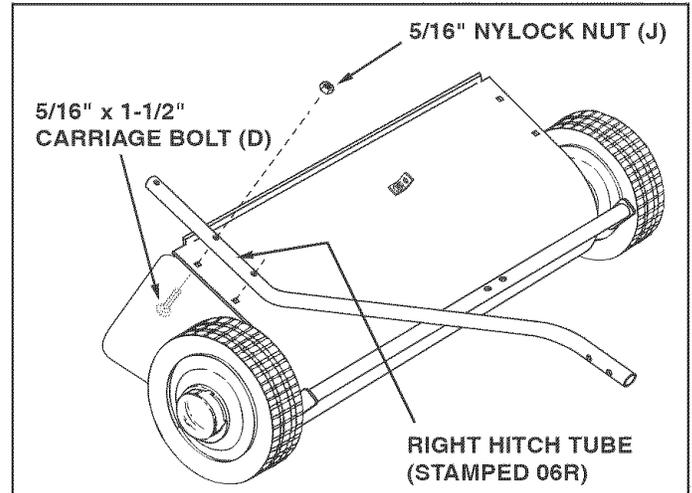

FIGURE 6
STEP 6: (SEE FIGURE 6 AND 7)
- Assemble the right hitch tube (stamped 06R) to the sweeper housing using two 5/16" x 1-1/2" carriage bolts (D), and two 5/16" nylock nuts (J). **Do not tighten yet.** Repeat for the left hitch tube (stamped 05L).